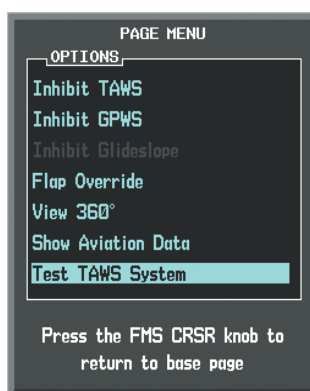

Figure 6-147 TAWS-A Page Menu
- 3) Select 'Test TAWS System' and press the **ENT** Key to confirm the selection. (Figure 6-147)